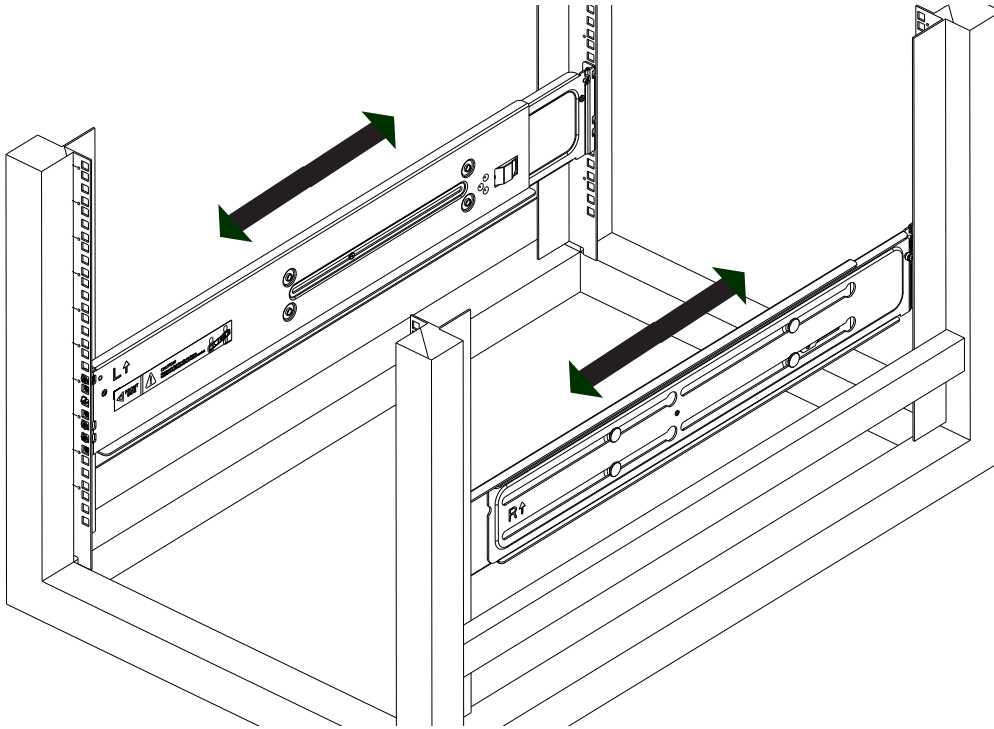

Figure 2-3. Sliding the Rail to the Depth of the Rack
4. Slide the rails sections apart to match the depth of the rack. Position the rails with the template and secure the front of each to the front of the rack with two flathead screws, then secure the back of each rail to the rear of the rack with two flathead screws (see Figure 2-3).